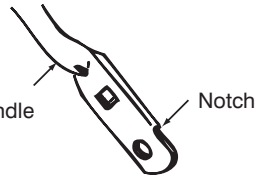

Figure 15
4. Turn the lower handle around so the notch on the bottom of the lower handle is facing forward as shown in Figure 15.